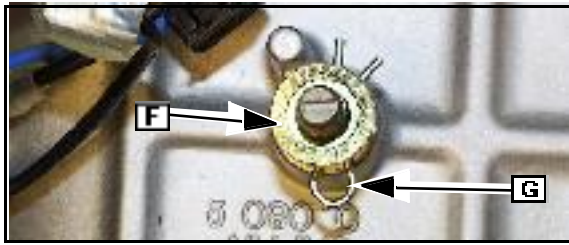

Fig. 6
5. Remove lower governor lever nut ([F] Fig.6).
Do not remove the spring clip ([G] Fig. 6) at this time.